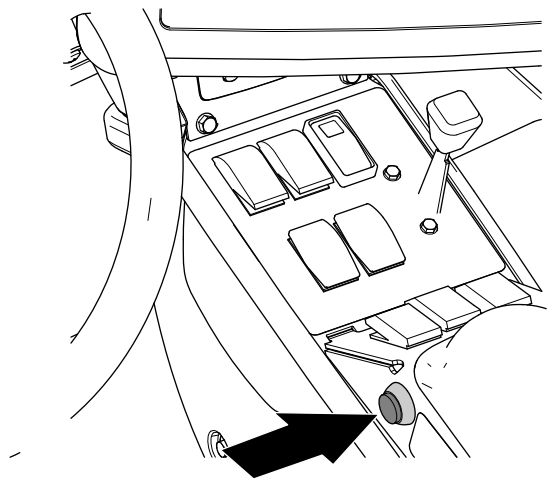

Figure 163
7. On the machine, press the master-section switch to the ON position (Figure 163).